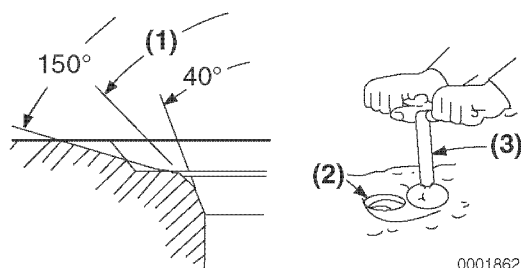

Figure. 6-7
Light cutting can be performed by the use of a hand-operated cutter (**Figure 6-7, (3)**).
The valve seat (**Figure 6-7, (2)**) diameter can be adjusted by top-grinding with a 150° stone to make the seat diameter smaller, and bottom-grinding using a 40° stone to make the seat diameter larger. Once the seat location has been corrected, grind and lap the seat angle (**Figure 6-7, (1)**) to specification. See *Cylinder Head* on page 6-5 for specifications.